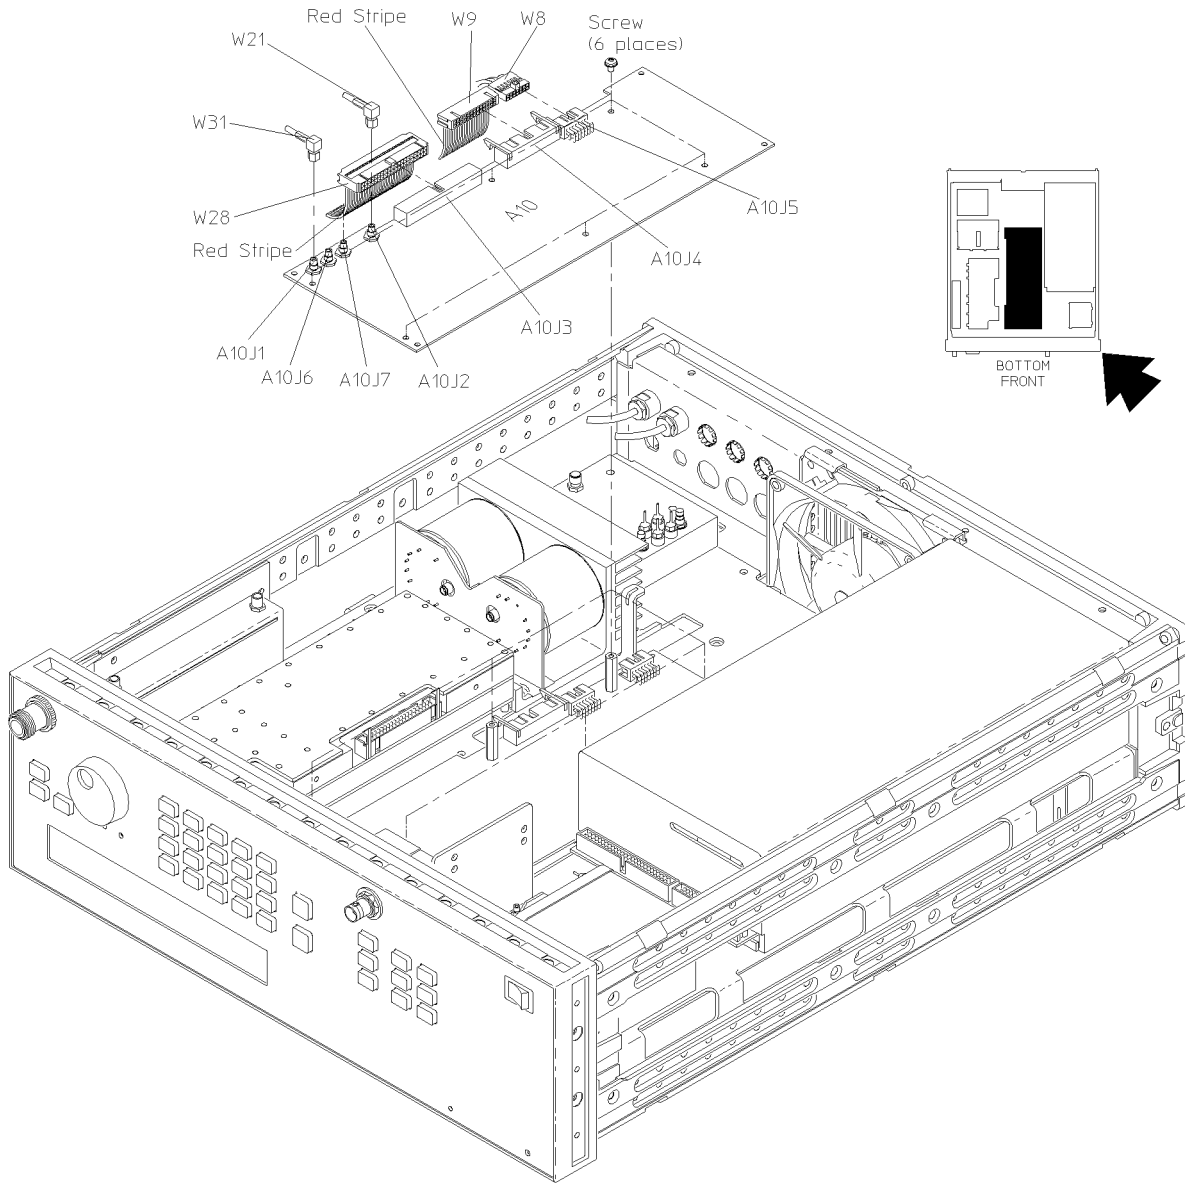

Figure 5-19. ALC Board Removal
3. In the introduction to this chapter, refer to the procedure “Flexible Coaxial Cables” and Figure 5-19. Then, using a 15/64 open end wrench, disconnect the following cables:
4. Refer to “Multi-wire Cables” and Figure 5-19. Then, disconnect the following cables:
5. Using a size 10 TORX[®] screwdriver, remove the six screws connecting the A10 assembly to the standoffs and the A9 assembly. See Figure 5-19.